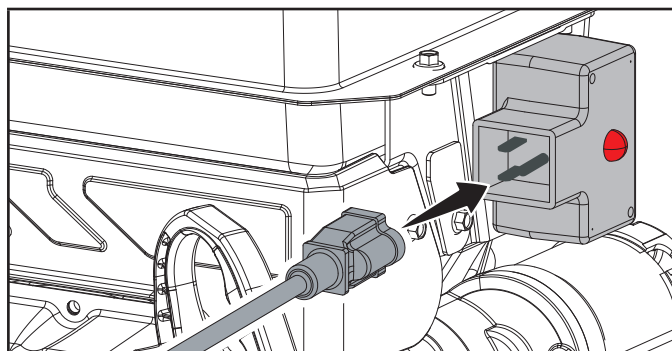

Figure 12
5. Alternatively, for electric start, plug in the supplied electrical cord into the starter. Press the electric start button and make sure that the mains supply voltage is 120 V~ 60 Hz (Fig. 12).